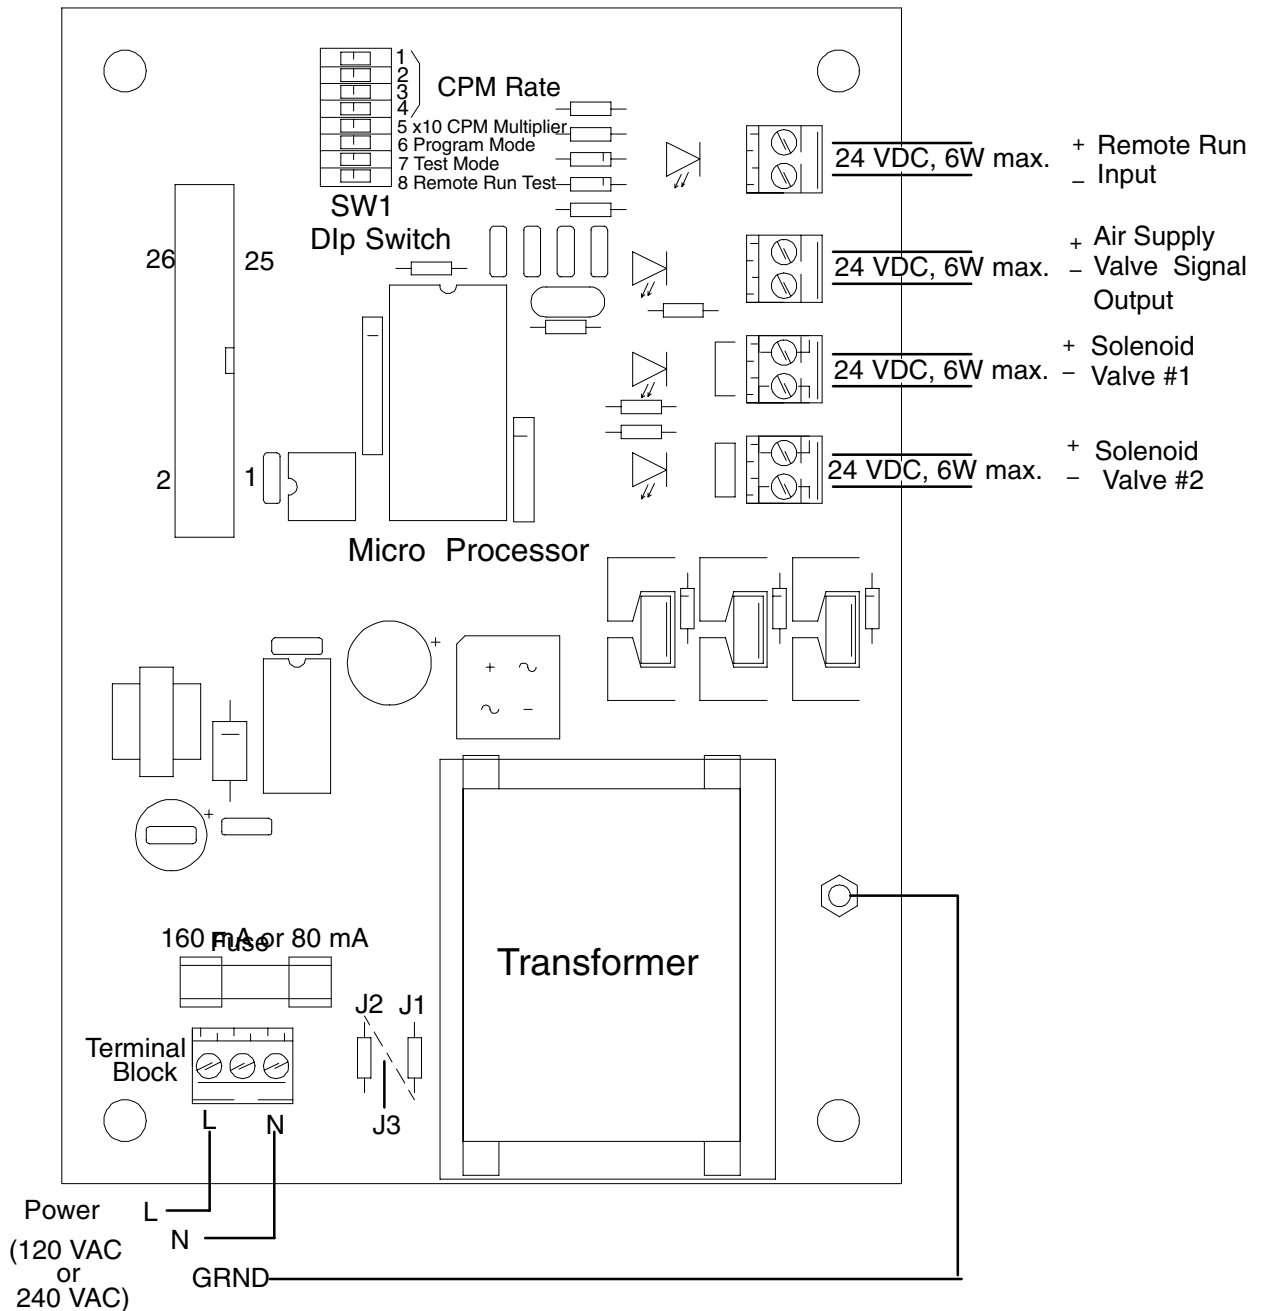

Fig. 2
The CycleFlo requires 120/240 VAC, 50/60 Hz to operate. The power input is fuse-protected with a 160 mA fuse for 120 Volt service and an 80 mA fuse for 240 Volt service (see Fig. 2).
Connect power to the unit as described. Always have a qualified electrician perform wiring connections. Connect Line (L) and Neutral (N) wires to the terminal block as shown in Fig. 2. The Ground wire (GND) must be attached to the #10–32 ground stud. A crimp-on ground wire lug comes attached to the ground stud. Remove the lug and attach to the ground wire. Replace the lug assembly back onto the stud and fasten down with the kepsnut provided.
Connect Line (L), Neutral (N), and Ground (GND) as shown in Fig. 2. Ground wire must be attached to the ground stud and fastened down with the nut provided.